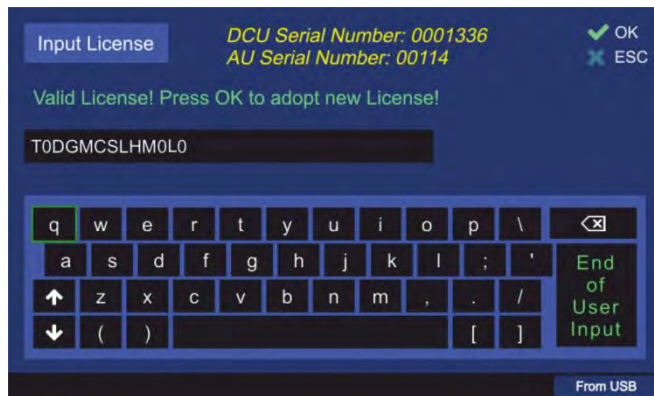

Figure 132. Input of a new license from USB
- After a valid license code was inputted, the device will show the message “Valid License!” and ask for confirming the action of adopting the new license (s. Figure 132).